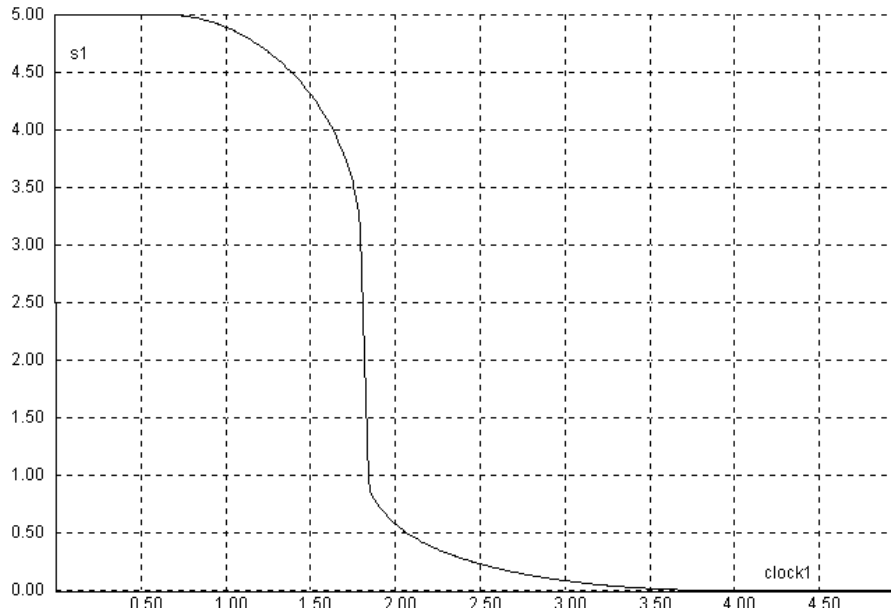

Fig. 11. Current consumption of the CMOS inverter (top) and DC characteristics of the CMOS inverter(bottom).
- ◆ Click on **Voltage vs. Voltage** to see the DC transfer characteristics of the inverter (Figure 11-bottom). The commutation point of the inverter V_c is the input voltage for which the output is close to $V_{DD}/2$. In the case of Figure 24, V_c is around 1.8 V. Click on **Back to Editor** to return to the editor.